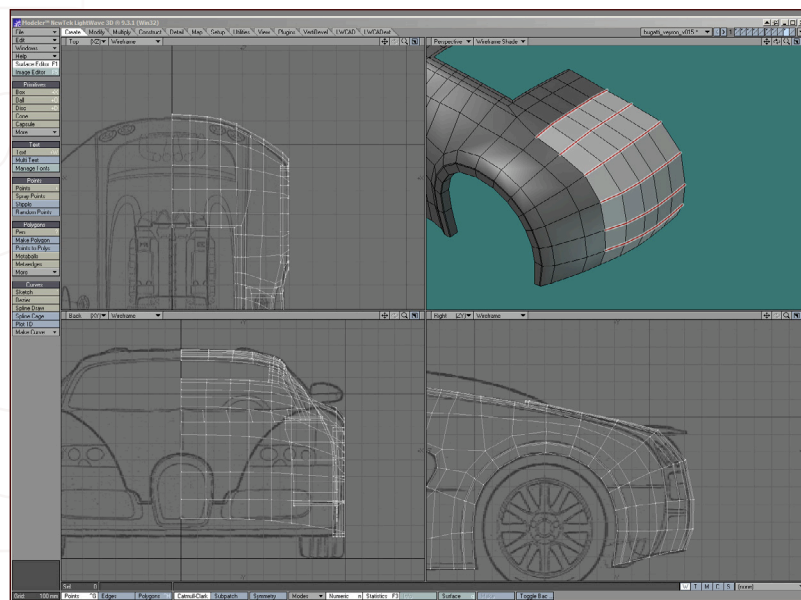

Fig 53
53. The last step for the main body shell is to fill in the rear, and we do this using the extender tool. Select the first highlighted edge and, using the extender tool, move along to the next polygon row and use extender again to repeat the process. Using a combination of the perspective viewport and the side view blueprint, adjust the points to attain as smooth a flow of polygons as possible (**Fig53**).